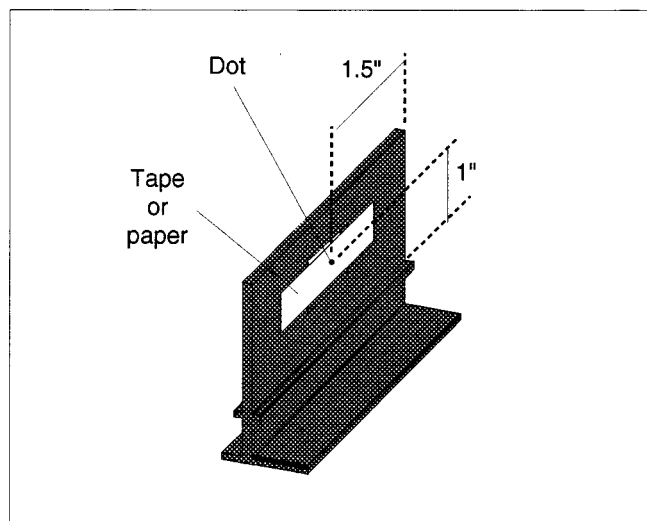

Figure 2 Locating the Optical Axis
- Place a piece of masking tape or tape a piece of paper over the square hole on the front of a component holder, as in Figure 2. Make a small dot on the tape or paper, in the center of the square hole (1-inch from the top of the component shelf, and 1.5-inch from the edge of the component holder).